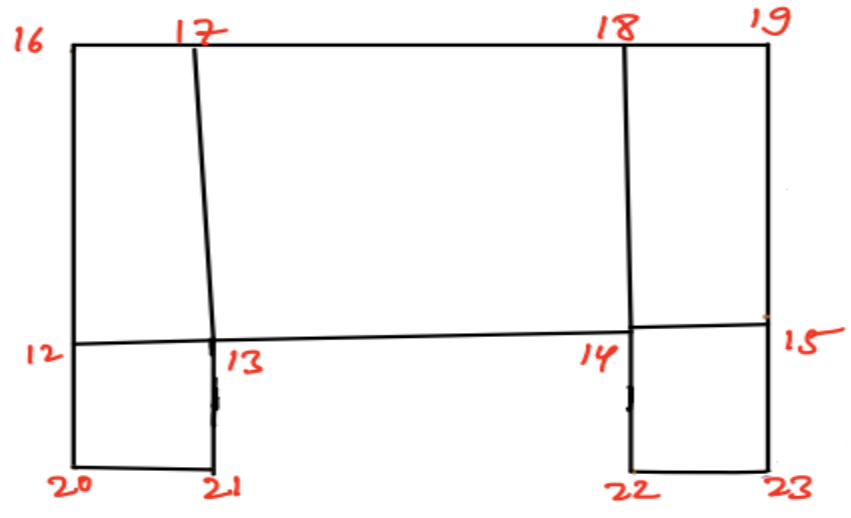

Figure 3
Similarly, the back plane of the cooling plate geometry is constructed, as shown in **Fig.3**, by replacing the Z value of the vertices of the front side with 1. This means that the back plane is 1 unit away from the front plane in Z direction.
2. Similarly, write all twelve vertices of the back plane (**Figure 3**). (lines 36 to 49)